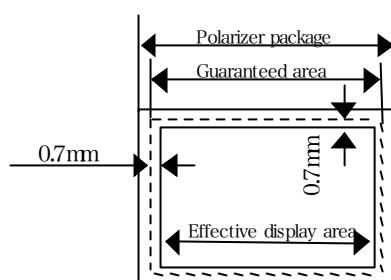

Fig.1
- (3) Module fixing method
- b) The guaranteed area of the polarizer is the outer circumference of 0.7mm of the effective display area(Fig.1). Design the monitor window frame of the set so that it is within this range including variance.
- (4) Others